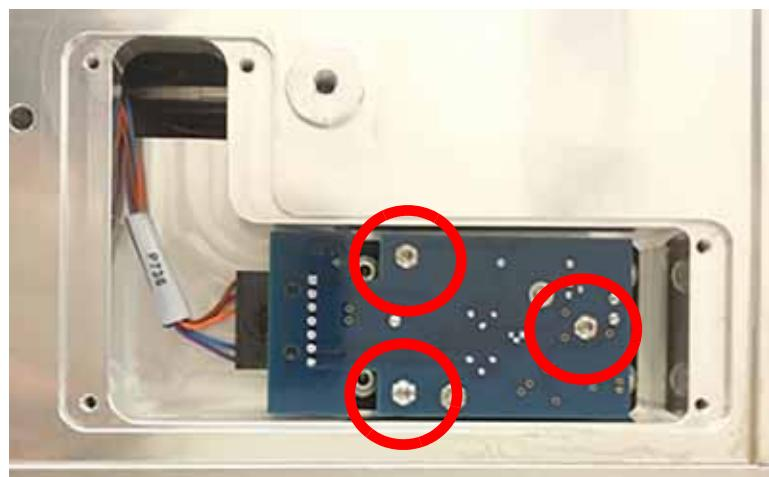

Figure 4.3-3. IR Detector PCB
4. Disconnect the cable to the PCB and remove the three screws with a 2 mm screwdriver. Remove the PCB and place in an anti-static bag. See Figure 4.3-3 below.